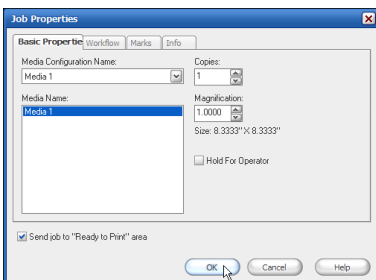

Figure 3—Job Properties
2. Click **Change** on the right-side of your screen. This opens the Job Properties dialog (see Figure 3).